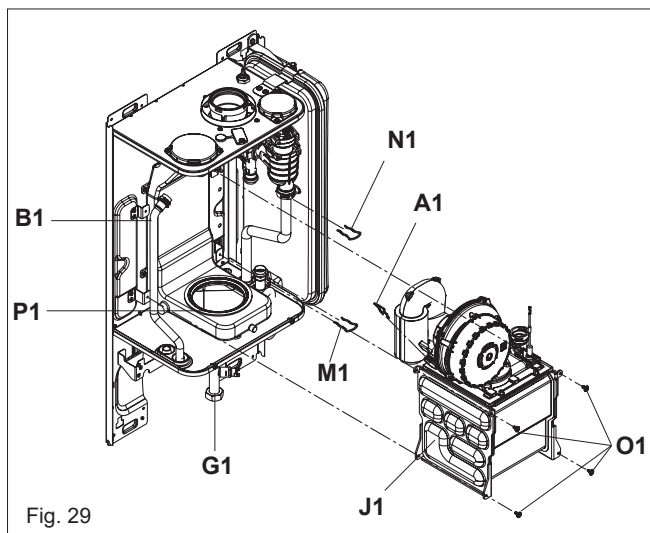

Fig. 29
6.16 MAIN HEAT EXCHANGER (fig. 29)